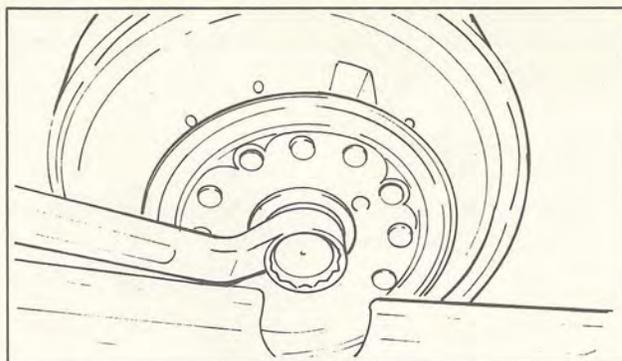

Fig. 2-9
- (3) Using the 22-mm. socket wrench, remove the primary sheave assembly securing bolt and remove the primary sheave cap. (Fig. 2-9)